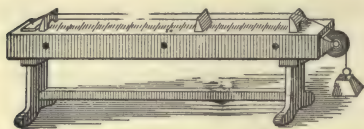

FIG. 147. — The length of a string influences the pitch.
**Strings and their tones.** — Fasten a violin string to a wooden frame or box, as shown in Figure 147, stretching it by means